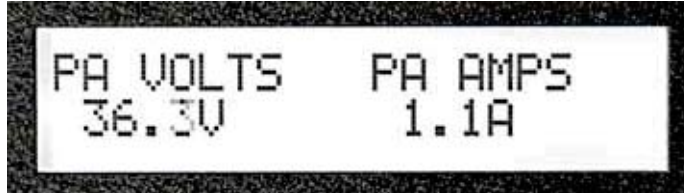

Figure 3-11. Press the FUNCTION Key to read VOLTS & AMPS
3. Pressing the FUNCTION key again will display the power output (volts multiplied by amps; see *Figure 3-11*).